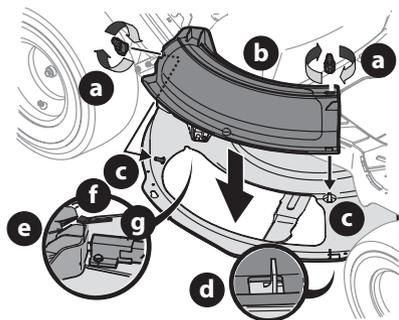

Figure 9
1. Remove the wing knobs (a) installed on the mowing deck and retain for later installation (Figure 9).
2. Install the mulch plug (b) into the discharge opening on the deck. The rear of the mulch plug (b) should be under the tab (f) on the rear deck bracket (g). The studs (c) on the deck surface will fit through the holes on the upper portion of the mulch plug (b). The small tab (d) on the deck lip area will fit through the square cutout on the lower portion of the mulch plug (b) (Figure 9).
IMPORTANT! Make certain that the upper-rear portion of the mulch plug (b) is depressing the safety switch (e) located on the deck surface and under the tab (f) on the rear deck bracket (g). The blade(s) will not start without the mulch plug (b) properly in place (Figure 9).
3. Secure the mulch plug (b) by tightening the wing knobs (a) removed in Step 1 (Figure 9).